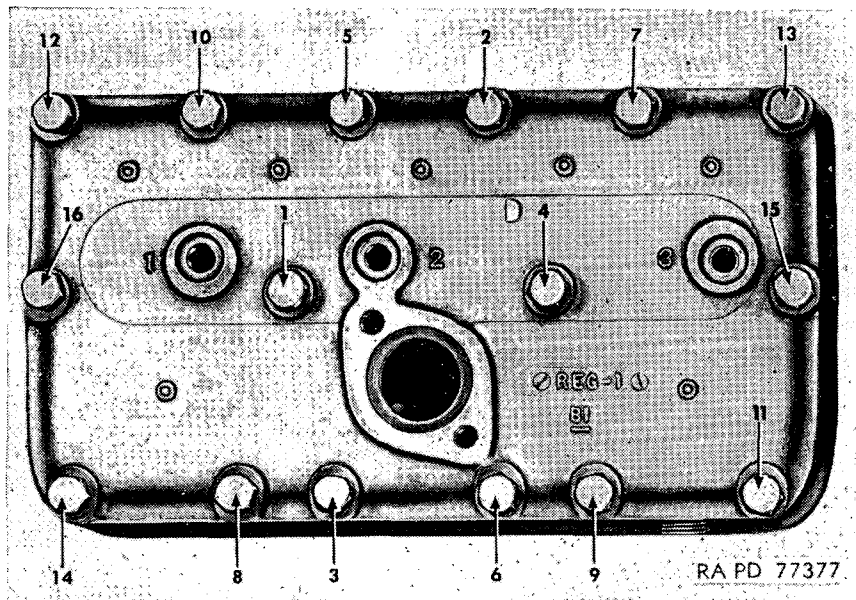

Figure 24. (Superseded.) Cylinder head cap screws.
uu. (Superseded) *Install engine lifting eyes 41-E-628 in engine* (fig. 24). Remove cylinder head cap screw No. 16 from front cylinder head and cylinder head cap screw No. 15 from rear cylinder head. Install two engine lifting eyes 41-E-628 in place of the two cap screws removed. Attach a chain to engine lifting eyes and fasten hoist lift hook to chain.
a. (Superseded) **INSTALL ENGINE LIFTING EYES—41-E-628 IN ENGINE** (fig. 24). Refer to paragraph 56*uu.*